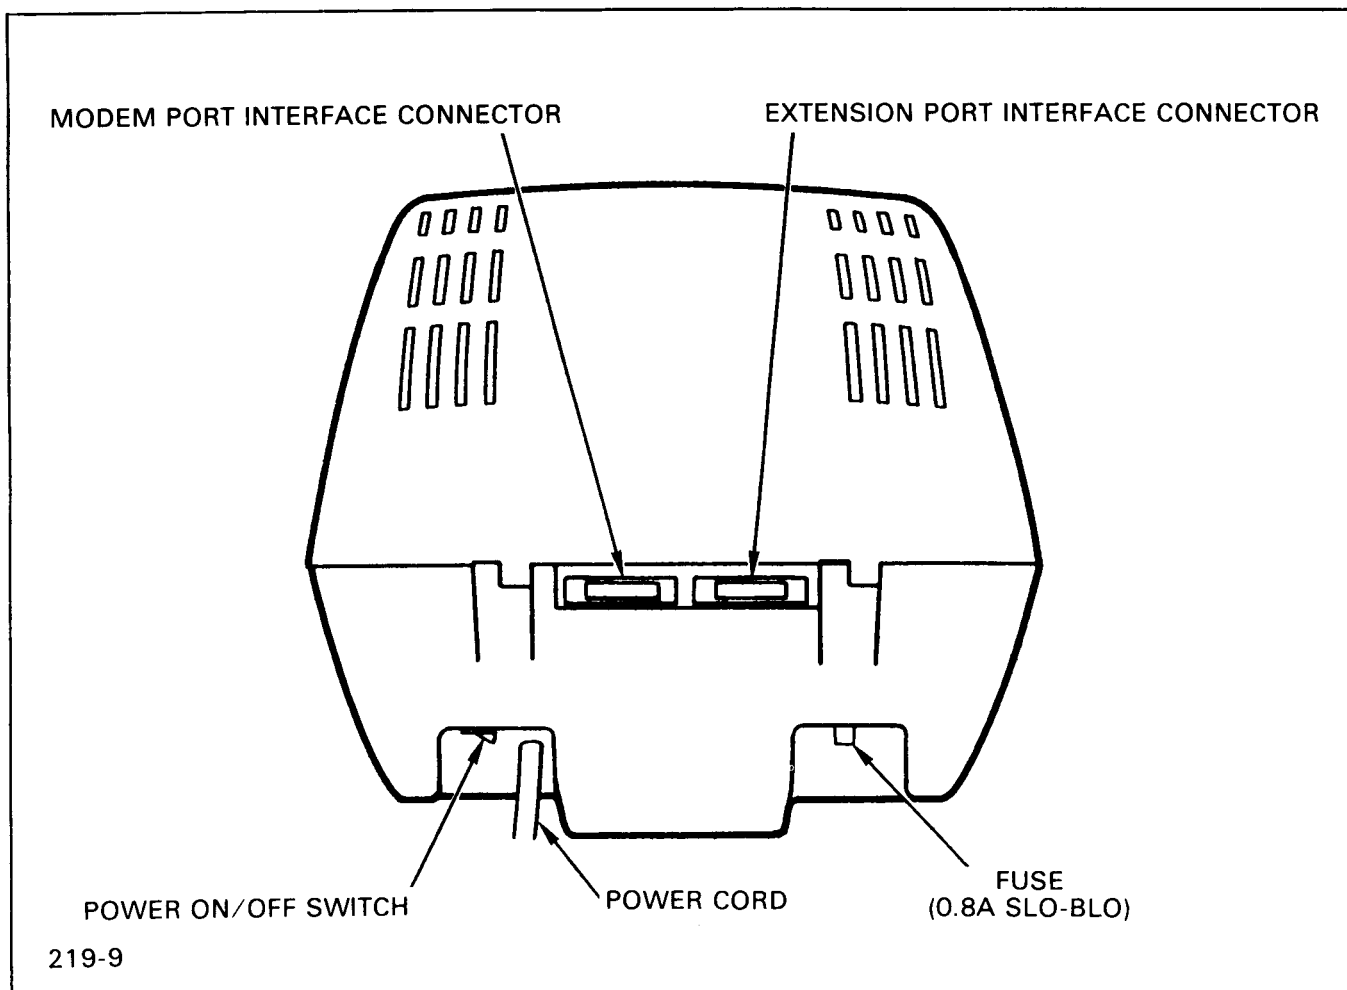

Figure 2-5. ADM 3A Rear Panel Controls
1. Verify that the POWER ON/OFF switch is OFF (figure 2-5).
1. Set the POWER ON/OFF switch (figure 2-5) to the ON position.
3. If the CUR CTL-OFF switch (S5-7) is set to CUR CTL (ON) (table 2-2), a reverse block cursor should appear in the upper-left corner of the screen.